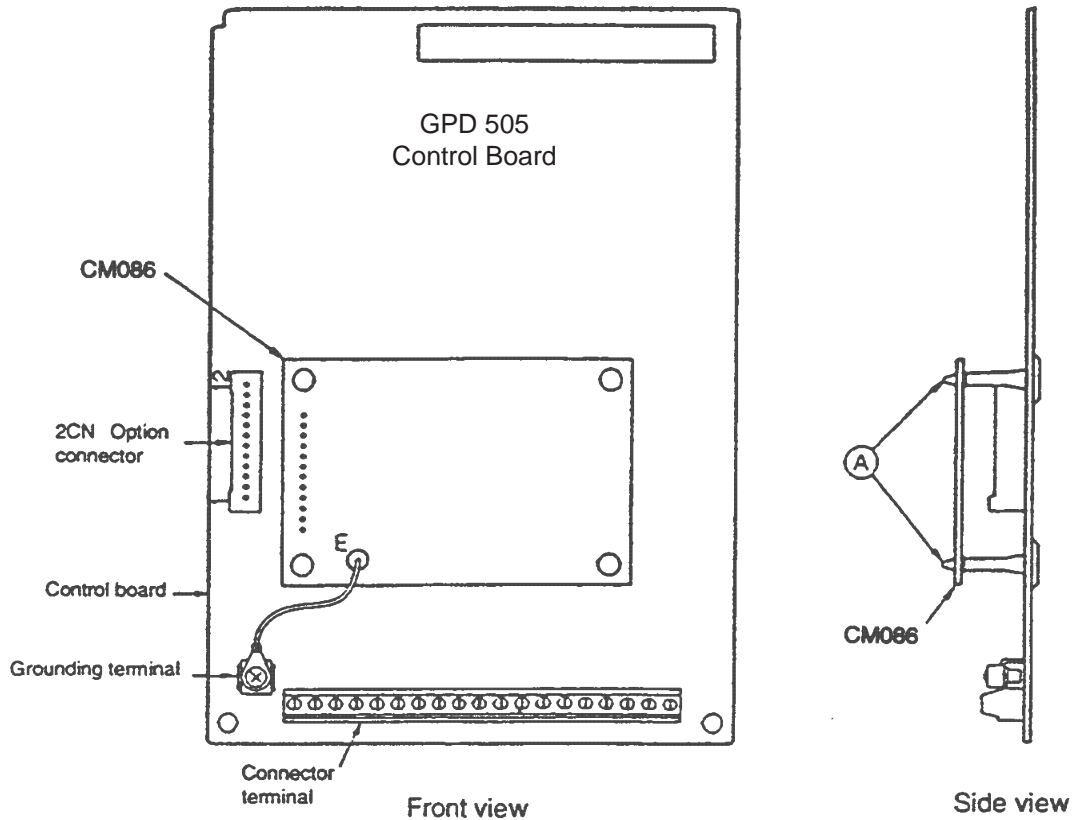

Figure 2. Installation of the RS-232C/RS-485 Interface Card CM086
4. Refer to Figure 2. Position the option card on four mounting spacers on the Control Board of the Drive. Gently press the card into place until its four mounting holes click into place on the the spacers.